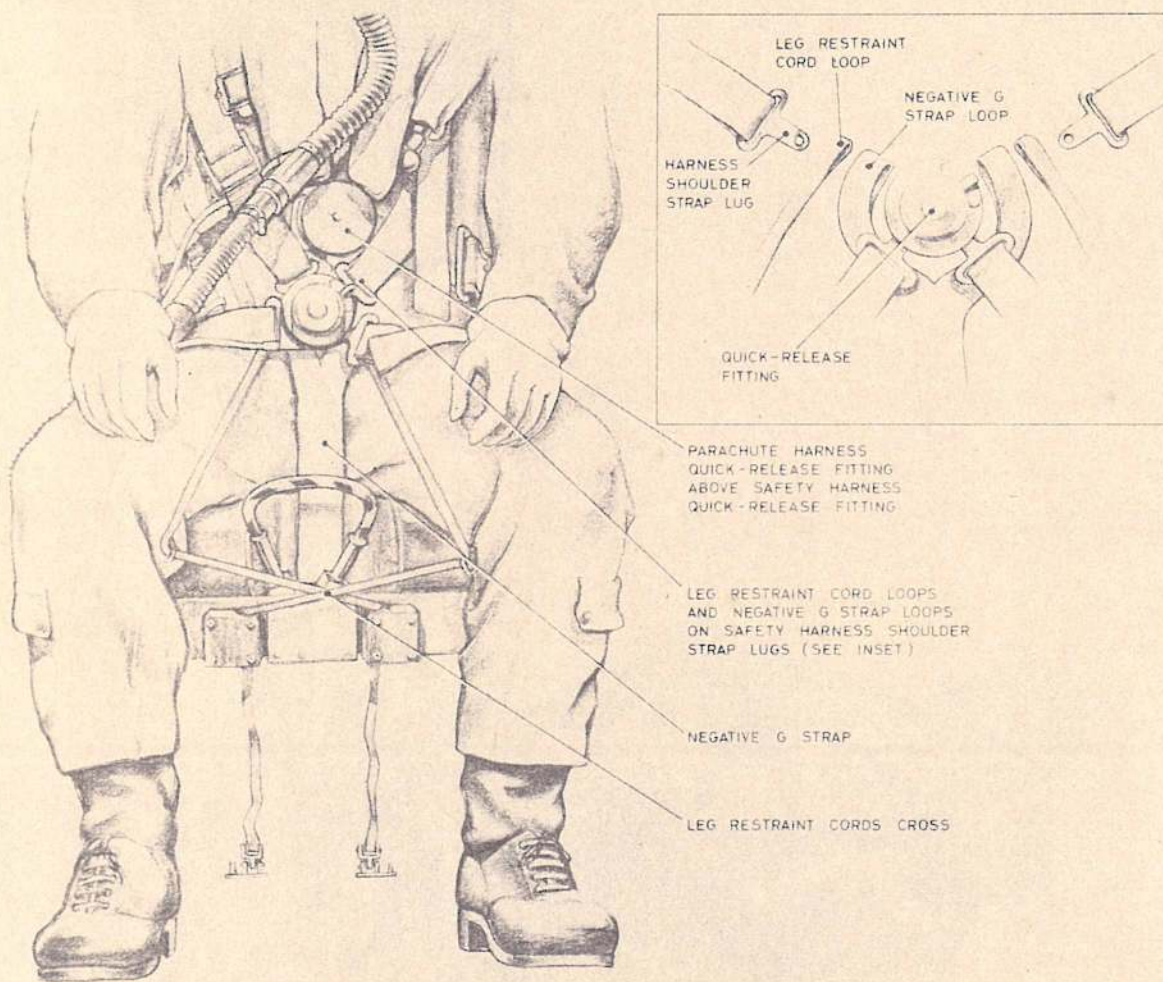

Fig. 4. Arrangement of leg restraint cords (inset: Assembly to quick-release fitting)
23. The strapping-in procedure is as follows; refer to fig. 4 to 6 for detail as necessary:-
- (6) Pass the parachute harness leg straps through the leg loop and couple the lugs to the quick-release fitting.
- (7) Adjust the quick-release fitting so that it lies centrally with the waistbelt close to the body.
- (8) Tighten the shoulder straps first so that the parachute harness quick-release fitting will lie above and clear of the safety harness quick-release fitting when assembled.
- (9) Tighten the parachute harness leg straps. When tightening harness straps, pull on the running end with one hand and push on the standing end with the other hand to relieve the tension on the buckles.
- (10) Connect the air supply hose to the air ventilated suit (if worn).
- (11) Fasten the lap straps of the safety harness but do not tighten.
- (12) Draw the negative-G restraint strap up between the legs and tuck the V-shaped end under the safety harness. Ensure that the negative-G restraint strap is clear of the seat pan firing handle.
- (13) Thread the leg restraint cords through the quick-release coupling rings on the garters as follows :-
- (a) Pass the cord emerging from the snubbing unit behind the left leg through the garter ring on the right leg and UNDER the safety harness lap strap. Insert the lug of the safety harness right shoulder strap through the loop at the end of the leg restraint cord and also through the loop at the end of the right branch of the negative-G restraint strap. Secure the lug in the quick-release fitting (see inset of fig. 4).
- (14) If there is insufficient leg restraint cord, press and hold the plunger under the snubbing unit and draw the cord upwards; if there is too much, draw any excess downwards through the unit (it is unnecessary to press the plunger in this instance).
- (15) Tighten the safety harness lap straps first, then tighten the shoulder straps and tension the negative-G restraint strap.
- (16) Connect the main and emergency oxygen supply to the mask tube assembly and the locating chain to the life-jacket.
- (17) Connect the Mic/Tel lead.
- (18) Adjust the height of the seat. Ideally the head is to be located in the centre of the headrest cushion.
- (19) Reach upwards and check that the face screen firing handle is within easy reach; DO NOT PULL.
- (20) Ensure that the chin straps of both helmets are fastened, fit the oxygen mask and perform pre-flight oxygen checks.